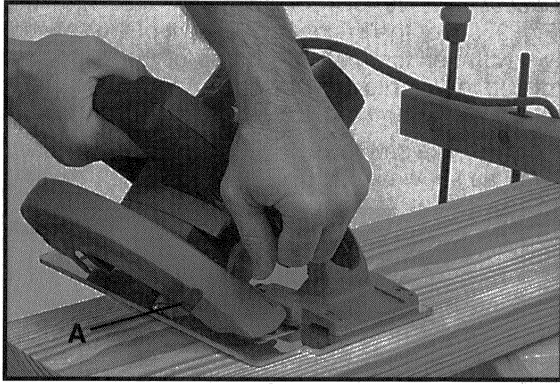

Fig. 11
Bevel cuts are made in the same manner as crosscuts and rip cuts. The only difference is that the blade is set at an angle between 0 degrees and 45 degrees, as shown in Fig. 11.
**CAUTION:** Use the lever (A) Fig. 11, provided on the telescoping guard when you have to retract the telescoping guard manually.